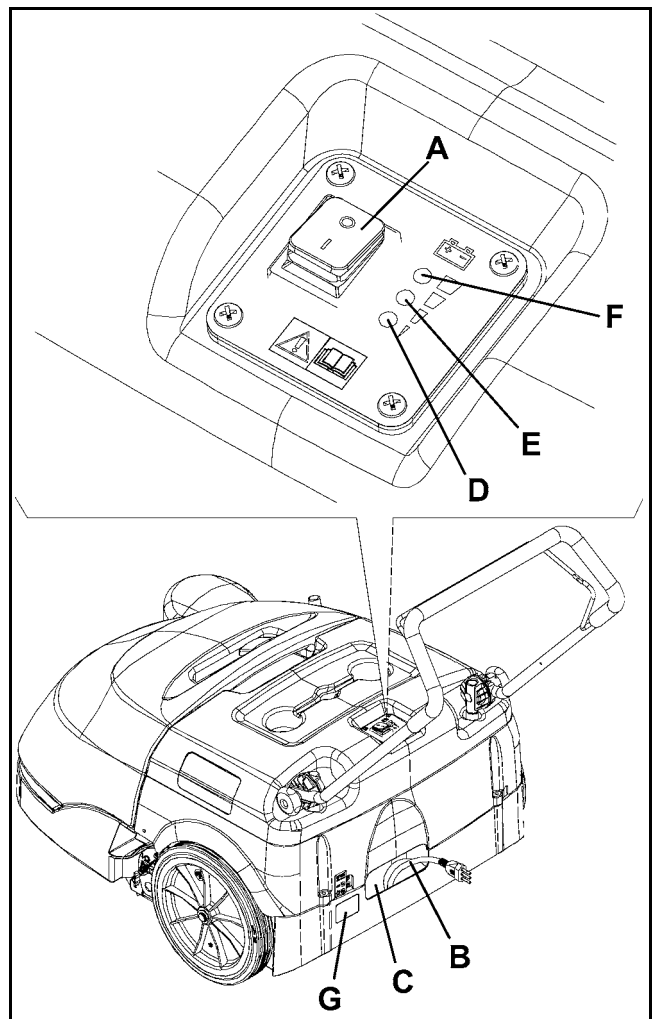

Figure 21
2. Turn the main switch (A, Fig. 21) to "0".
3. Remove the battery charger cable (B, Fig. 21) from the housing (C) and connect it to the electrical mains.
Before connecting the battery charger cable (B, Fig. 21) to the electrical mains, check that the mains voltage (Volt) and frequency (Hz) match the values shown on the serial number plate (G, Fig. 21).
4. While charging the battery, the red warning light (D, Fig. 21) and the yellow warning light (E) turn on in sequence. When the green warning light (F) turns on, the battery is charged.
5. Disconnect the battery charger cable (B) from the electrical mains and place it on the housing (C).